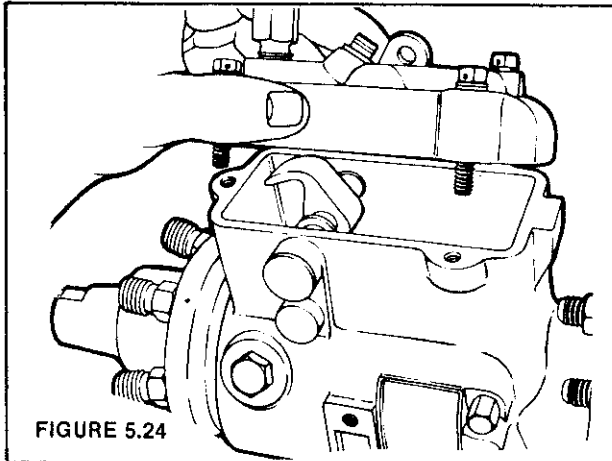

FIGURE 5.24
STEP 24 Assemble a new gasket to governor control cover and install cover on pump. Slip the flat washers and lock washers onto cover screws and tighten to the specified torque (Figure 5.24).